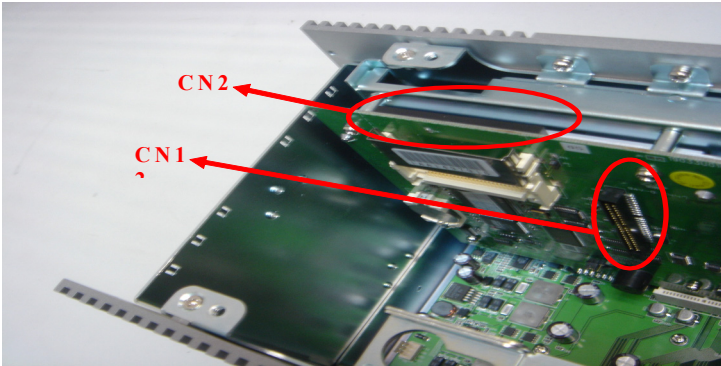

Figure 3.1: IDE Connector (CN1 and CN2)
5. Connect the IDE flat cable to Primary (recommended; CN1 of mainboard) or secondary IDE connector (CN2 of mainboard), then connect the other side of the connector to the hard disk. (Refer to Figure 3.1 for the location of CN1 and CN2)